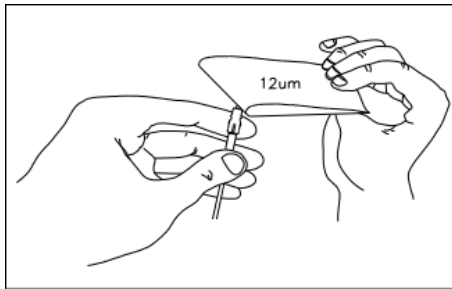

Figure 13: Use only the weight of the film as pressure.
15. Hold the connector in one hand and a sheet of yellow 12 micron lapping film in the other. Very gently and with very little pressure, complete 10-15 circular strokes, 1 mm in diameter, to remove any sharp burrs or "hackle" from the cleaved fiber. (See Figure 13).